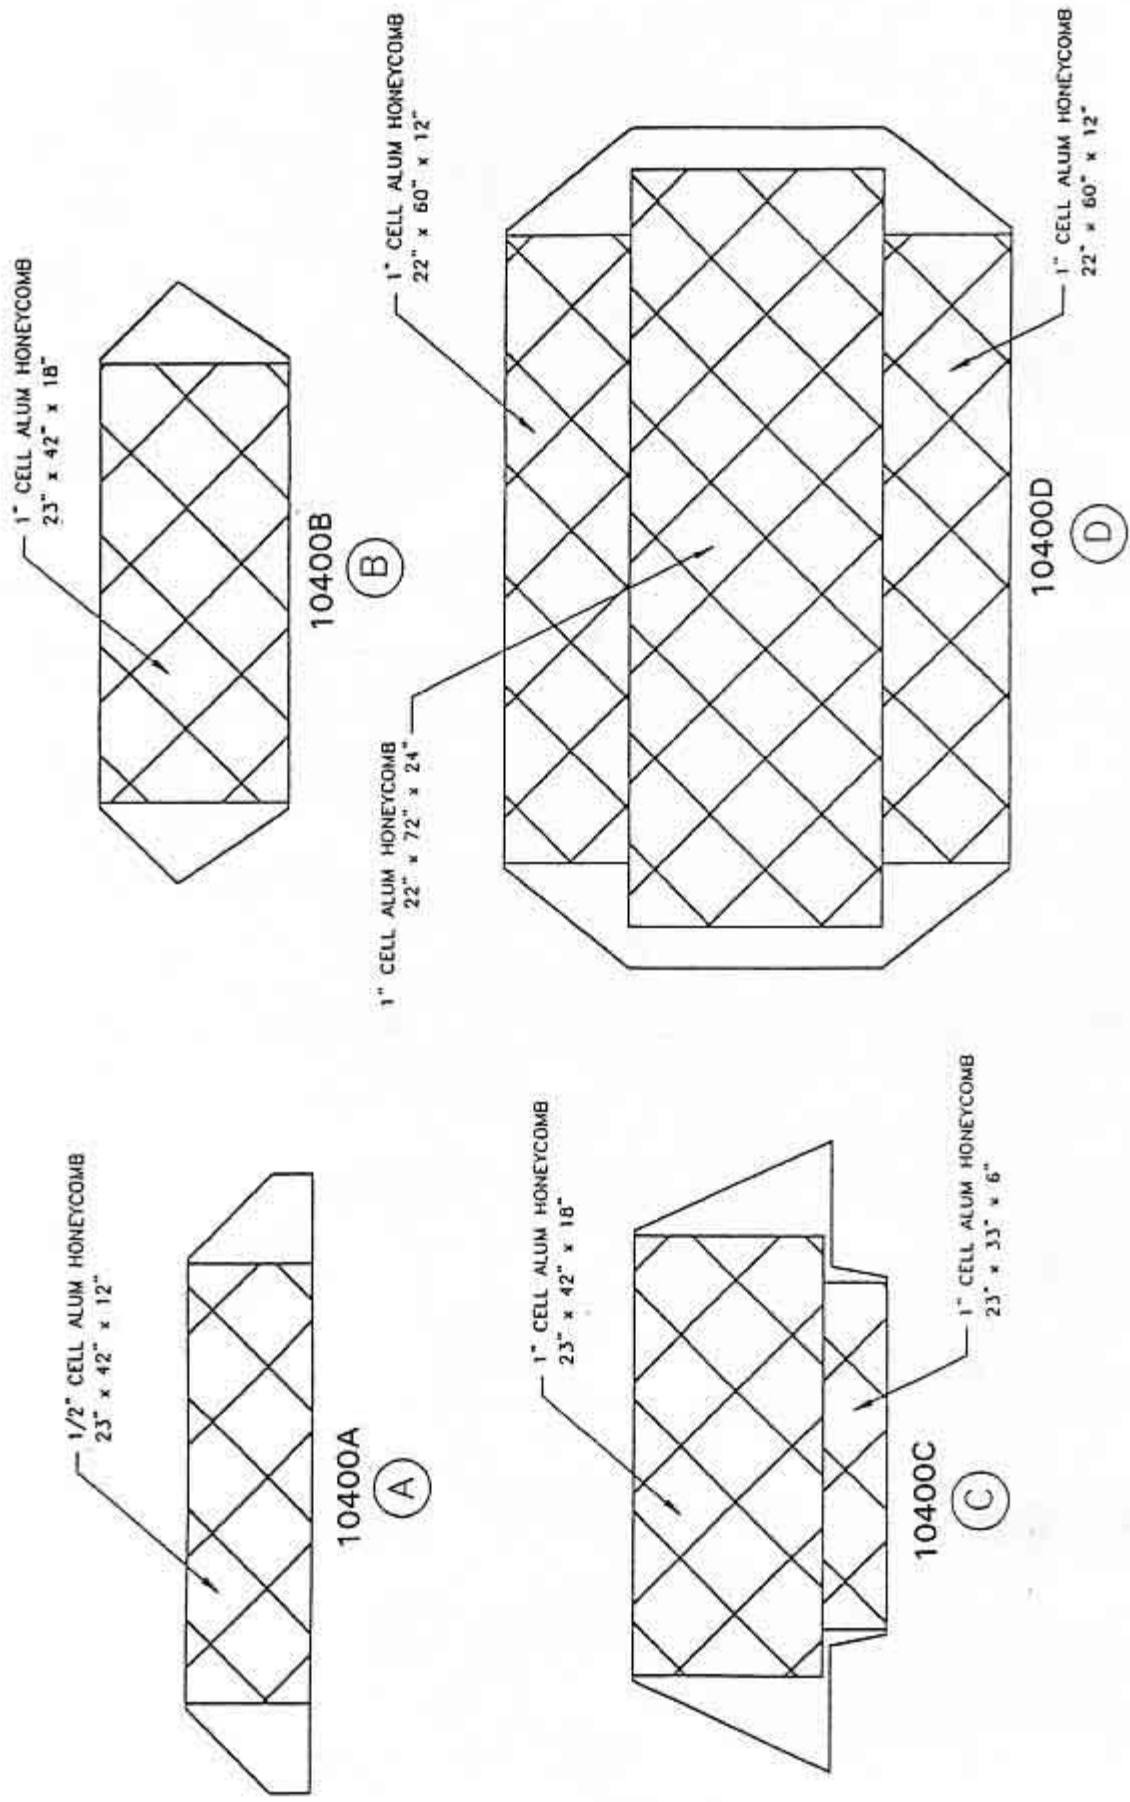

Fig. 10 – Scorpion TMA Model B or C Energy Absorbers
2.1 Construction – The Scorpion TMA 10,000 consists of three basic components. A steel back-up is attached to the rear of the truck with an all-steel support structure, figs. 11, 12 & 13. An all aluminum tube frame extends out 13' from the back-up. Inside the tube frame is a series of four aluminum boxes filled with energy absorbing aluminum honeycomb, fig. 10.